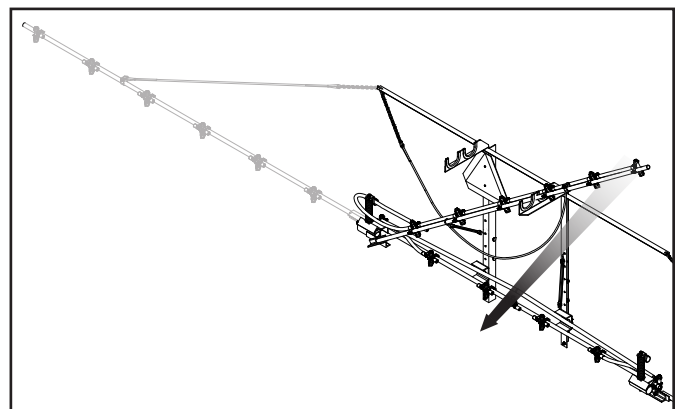

Figure 1: Unfolding the boom
2. Unfold the boom by lifting the boom wing out of the boom cradle, lowering the wing, and then pulling the boom wing towards the rear of the sprayer as shown (Figure 1).